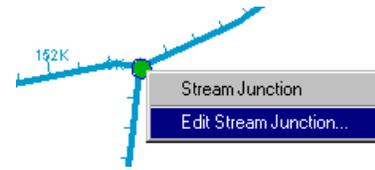

Figure 5.20 Stream Junction Shortcut Menu
2. Using the **Stream Node Tool** , right-click on the Stream Junction to access the shortcut menu (Figure 5.20).